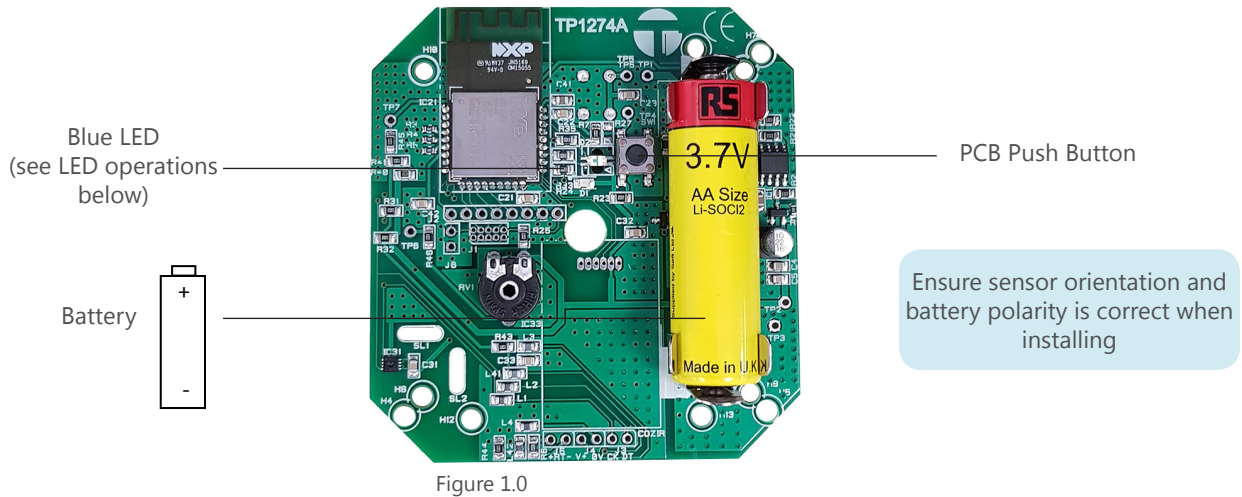

Figure 1.0
- (1) this device may not cause harmful interference
- (2) this device must accept any interference received, including interference that may cause undesired operation.
- Ensure the sensor is installed in the correct orientation\*. See Fig. 1.0.